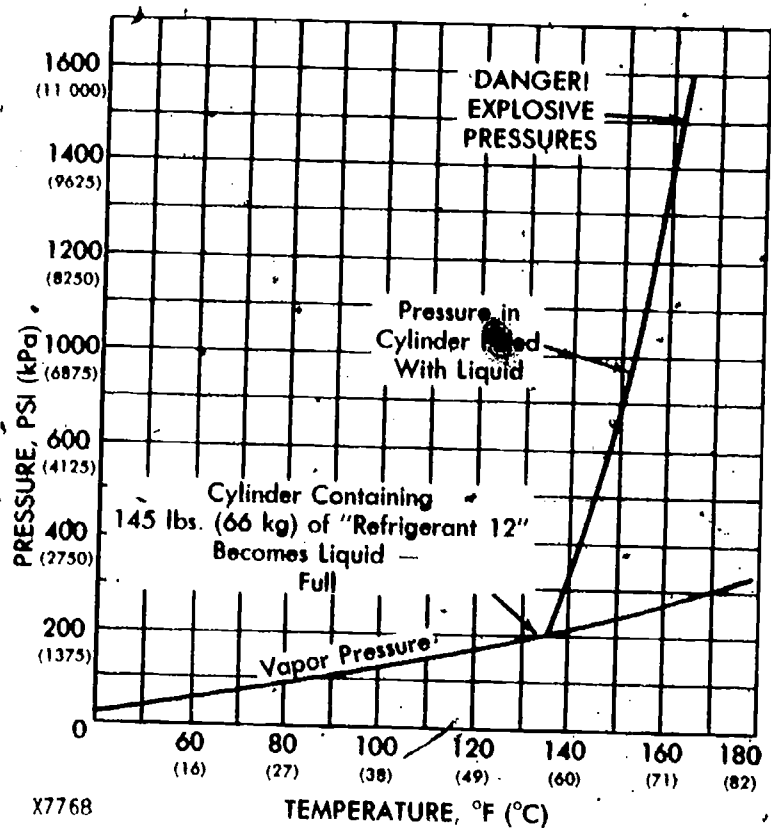

Fig. 14 — Pressure Of Refrigerant-12 At Rising Temperatures
**2. DO NOT OVERHEAT THE REFRIGERANT CONTAINER.** The graph in Fig. 14 on the pressure characteristics of Refrigerant-12 shows that beyond 120°F (49°C) the pressure buildup is tremendous. This can be extremely dangerous in one and two pound containers having very thin walls.